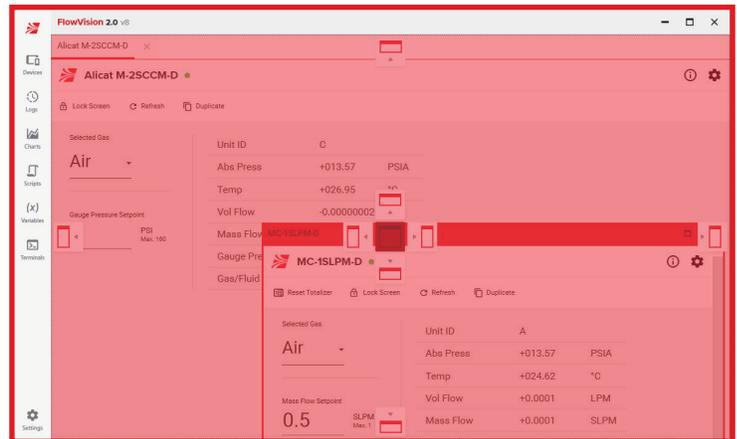

Figure 5. Re-attaching module to the tabs group.
- Re-attach an entry tab to the tabs group by clicking and dragging the tab over another tab and releasing the mouse button. Alternatively, drag the tab over the center icon before releasing the mouse button. When the screen is highlighted in red, release the tab to return it to the tabs group (figure 5).